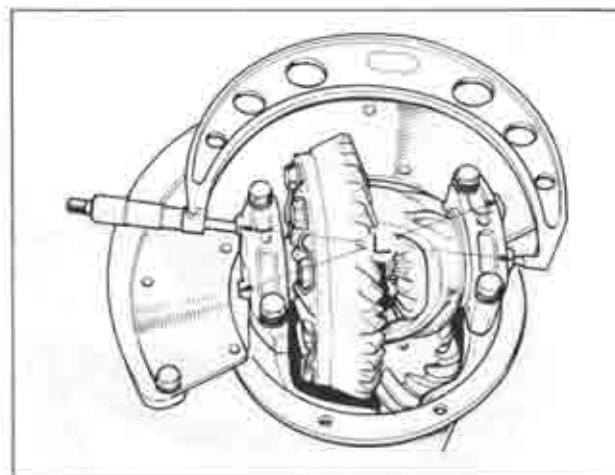

Fig. 9-34 Adjusting bearing preload (case spread)
3. The preload on the differential bearings is obtained by tightening the adjusters. Tighten the adjusters until the distance between both pilot sections on the bearing caps becomes **185.428 ~ 185.5 mm (7.3004 ~ 7.3033 in)**, as shown in Fig. 9-34.